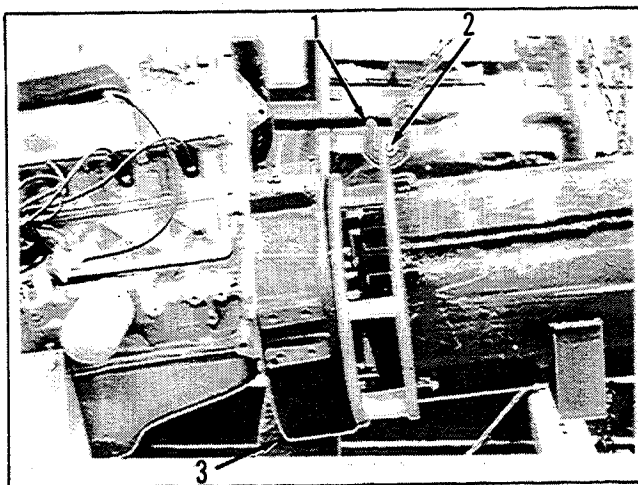

Figure 6-1. Hoisting Generator
3. Suspend the generator at both ends with hooks in eyes. Raise generator end with a hoist, lifting off of vibro-mounts. Figure 6-1.
4. Support the engine by placing wood blocks under flywheel housing. Lower generator end allowing flywheel to rest on blocks. Figure 6-1.